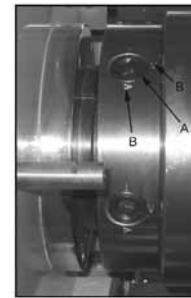

Fig. 3
5. Lift the chuck up to the spindle nose and press onto the spindle. Tighten in place by turning the cam locks 1/4 turn clockwise. The index mark (A, Fig. 3) on the camlock should be between the two indicator arrows when tight (B, Fig. 3). If the index mark is not between the two arrows, remove the chuck and adjust the camlock studs by either turning out one full turn (if cams will not engage) or turning in one full turn (if cams turn beyond indicator marks).